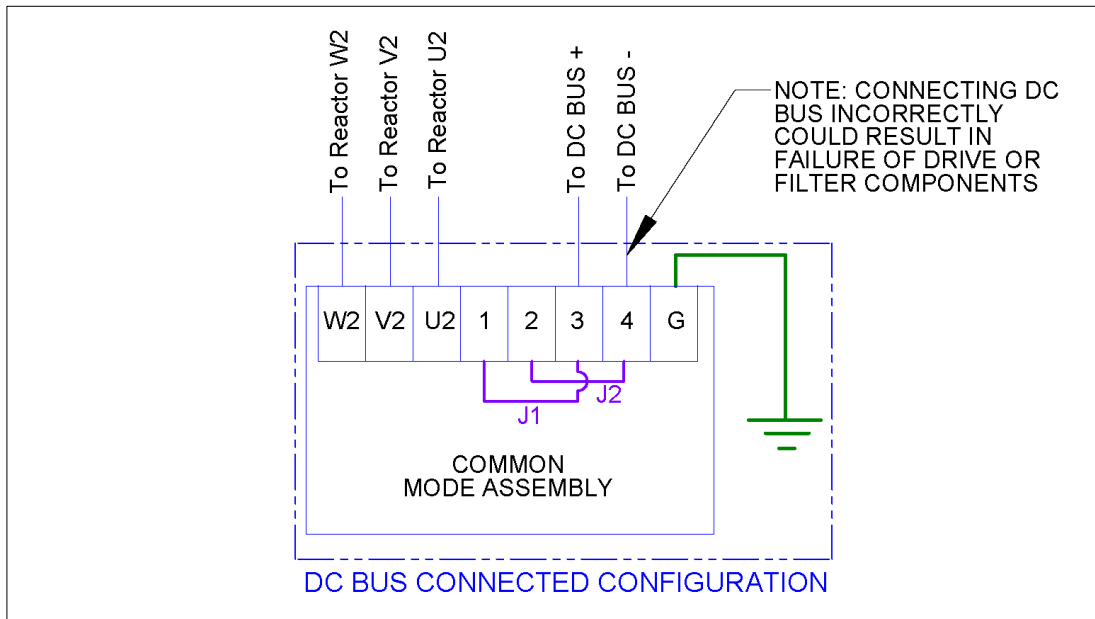
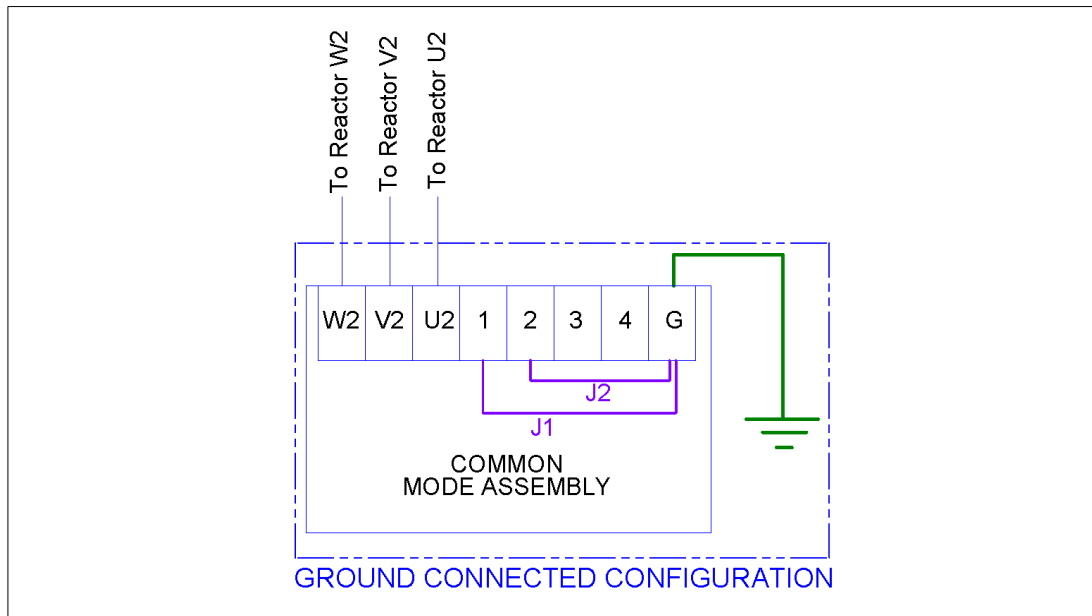

Figure 5-5: DC Bus Connected Configuration
Figure 5-6: Ground Connected Configuration
With a solidly grounded wye or high resistance grounded wye transformer secondary, we recommend using the ground connected configuration, shown in Figure 5-6: Ground Connected Configuration (p26). The common mode assembly is connected in this configuration by default.
With a floating wye transformer secondary or with a delta transformer secondary, we recommend using the DC Bus connected configuration, shown in Figure 5-5: DC Bus Connected Configuration (p26).
If this information is not available, we recommend using the DC Bus Connected Configuration, shown in Figure 5-5: DC Bus Connected Configuration (p26).
**See Figure 5-5 (p26) and Figure 5-6 (p26) for Common Mode Assembly connection diagrams
See Figure 5-5 (p26) and Figure 5-6 (p26) for Common Mode Assembly connection diagrams